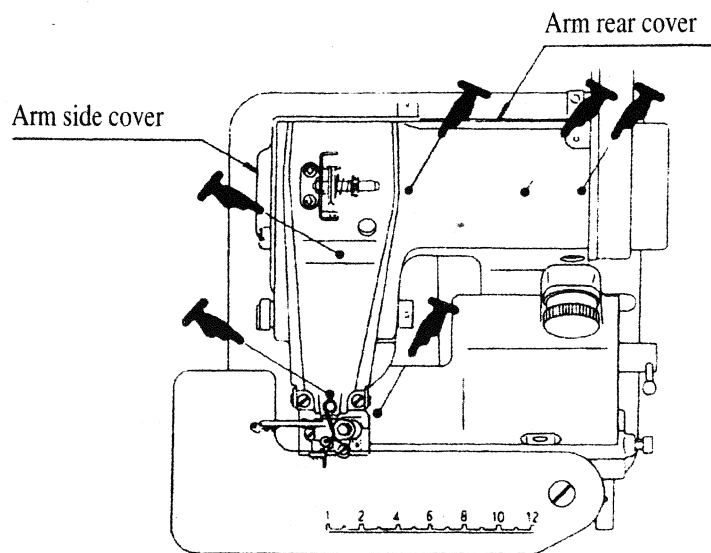

FIG.7
2. LUBRICATION (FIG.7)
After installing the machine, pour some lubrication oil into the holes on the machine to operate smoothly and lengthen the serve life (Fig.7). You can also pour some machine oil on the running parts inside the machine to operate smoothly after opening the arm side cover and the arm rear cover. You had better pour one or two drops of machine oil before operation everyday to lengthen the serve life.